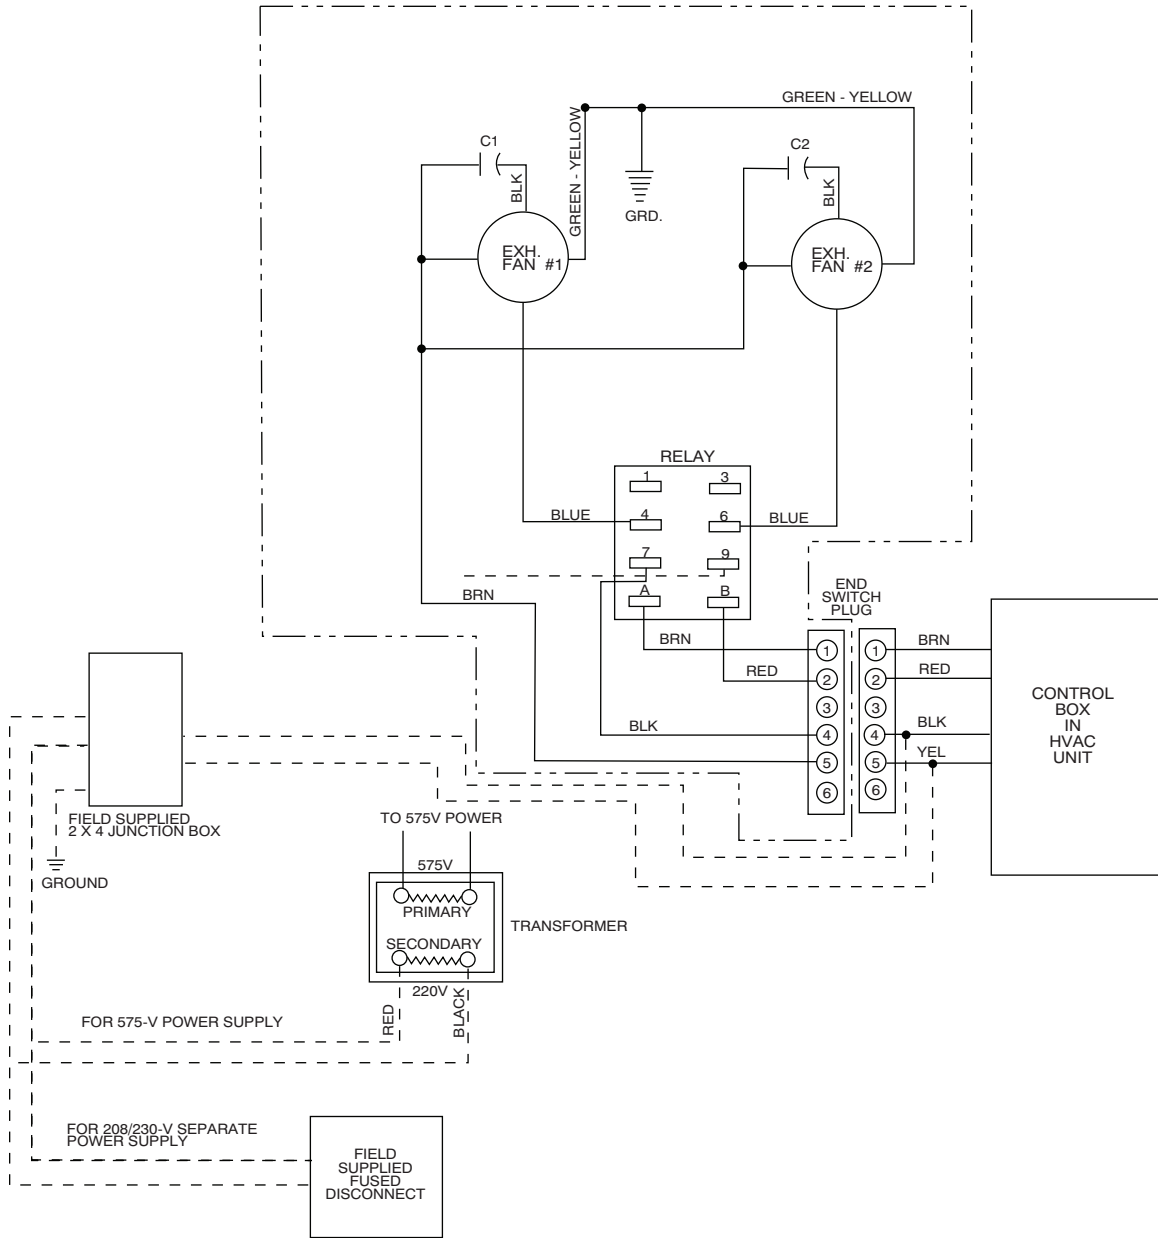

Fig. 4 - Power Exhaust Wiring - 208/230-v and 575-v Units
7. The power exhaust is powered from the base unit. The addition of a power exhaust may impact wire sizing and overcurrent protection. Refer to the base unit installation instructions for unit MCA (minimum circuit amps) and MOCP (maximum overcurrent protection) electrical data. See Fig. 4 and 5 for wiring.